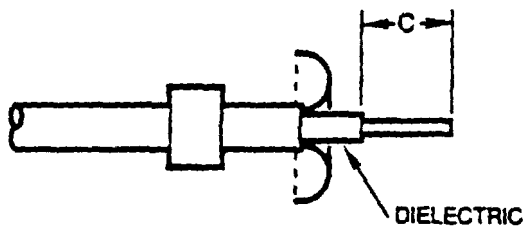

Figure 6. Braid Fold-Back
c. Flare the shield back as shown in Figure 6. Do not comb out individual shield strands. Using a sharp knife, strip dielectric to dimension C Table 1.